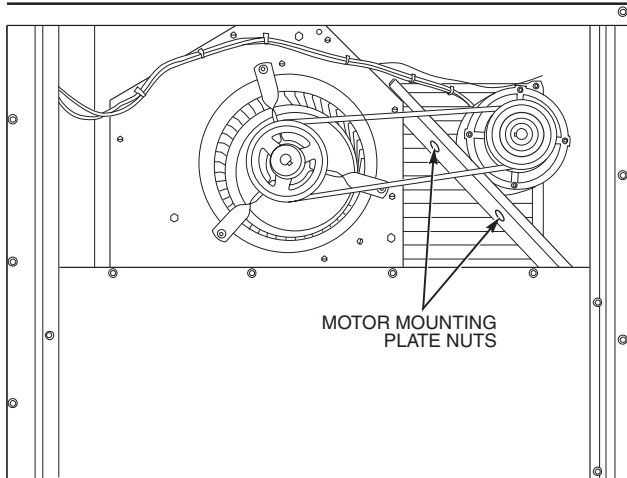

Fig. 35 — Belt Drive Motor Mounting, 50TFF007-009
2. Loosen belt by loosening fan motor mounting nuts. See Fig. 35 and 36.
2. *Sizes 007-009* — Slide motor mounting plate away from fan scroll for proper belt tension (13 mm [$1/2$ -in.] deflection with 8 to 10 lbs of force) and tighten mounting nuts. See Fig. 35.